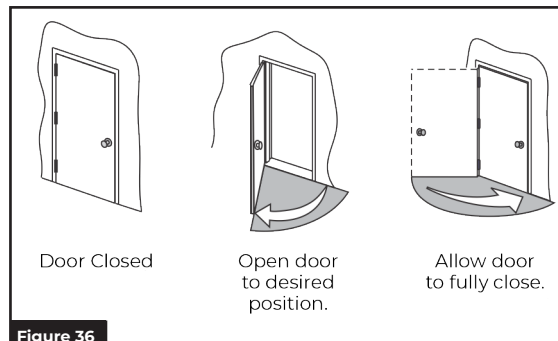

Figure 36
- Push in on joystick again, while door is still closed, to set Home or closed position (Figure 36). Display changes to "Set Open Limit".
- Open door to desired open position (Figure 36) and push in on joystick again. Display changes to "Closing to Home".
- Allow door to fully close again (Figure 36). Display changes to "Home".